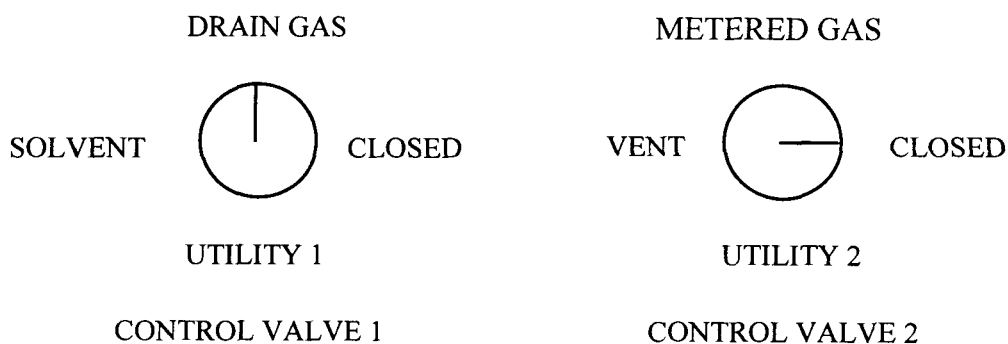

Figure 4-7 Control Valves set to DRAIN GAS and VENT
4. Set the Control Valve1 to DRAIN GAS and CONTRL VALVE 2 to CLOSED (see figure 4-7).